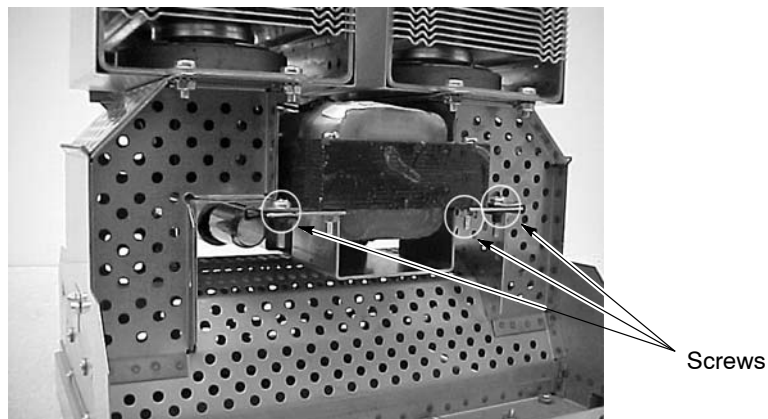

Figure 5-13 Transformer and Connector Bracket Removal
4. Remove the transformer and connector bracket by removing the 3 screws identified in Figure 5-13.